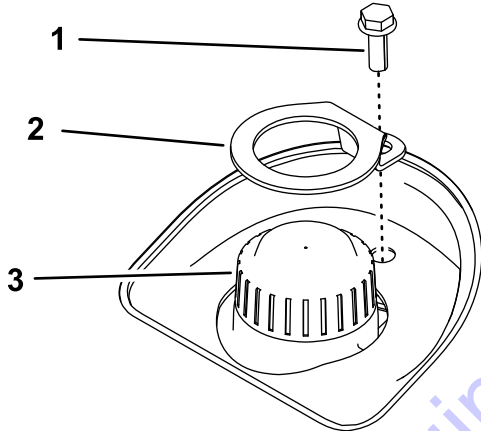

Figure 46
5. If the oil level is low, remove the cap lock and cap from the top of the expansion tank (Figure 46), and add enough of the specified hydraulic fluid to raise it to the proper level.